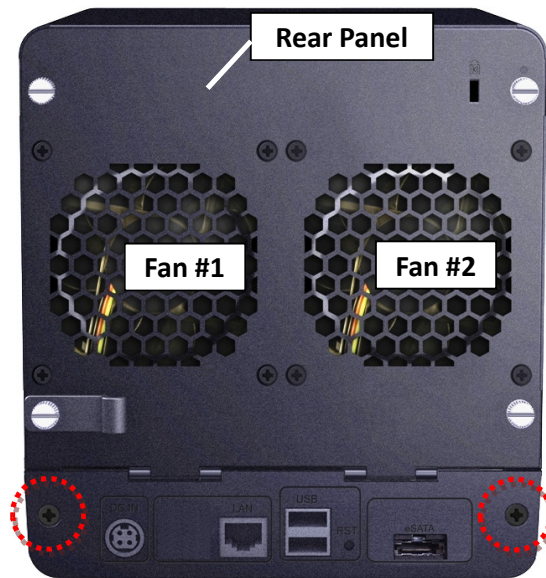

Fig. 52
3.1.7 Release the two (2) screws on the rear panel (Marked by the red circles). (Fig. 52)